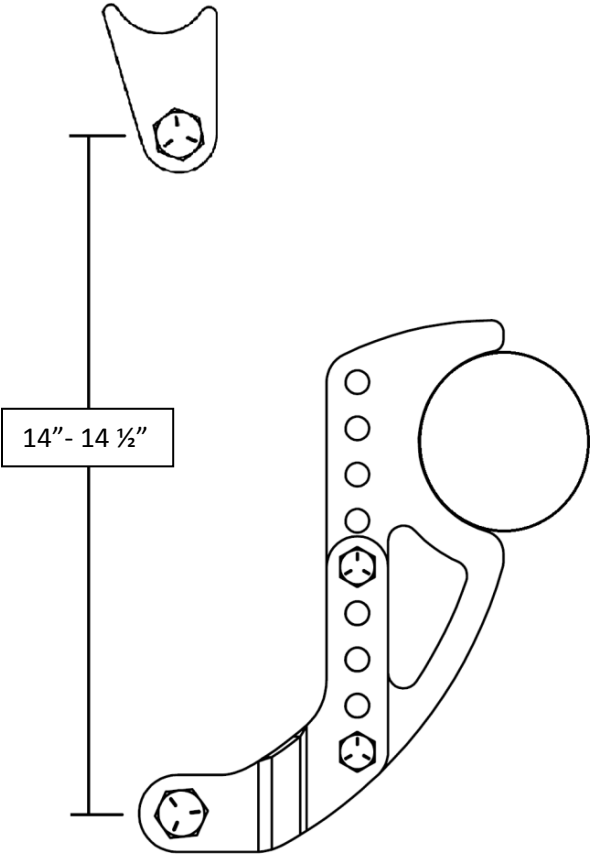

Figure 1
3. If the vehicle has factory frame rails, it is recommended that the frame rails be double plated in the area the cross member is to be welded. Keep in mind that the upper points should be as parallel to each other as possible (See **Figure 1**). Measure the distance from frame rail to frame rail and cut the cross member tubing to length (if applicable). Tack the tubing into place. Double check all measurements.
4. Assemble both sets of upper mounts (two tabs, one $\frac{1}{2}$ " ID x $1\frac{1}{4}$ " in. wide sleeve or a 1" wide bearing (from shock), one $\frac{1}{2}$ " x $2\frac{1}{2}$ " bolt and one $\frac{1}{2}$ " nut). Assemble both of the adjustable mounts (one left L-bracket, one Right L-bracket, one housing bracket, two $\frac{3}{8}$ " x $1\frac{1}{4}$ " bolts, two $\frac{3}{8}$ " nuts). When assembling the adjustable shock mount brackets, the housing bracket is sandwiched between the two L-brackets. Align the L-brackets so the shock mount hole is approximately halfway down the housing bracket (**Figure 1**). This allows plenty of ride height adjustment, both up and down. It is suggested that for the installation process you substitute the lock nuts with standard nuts for ease of use.
10. It will be necessary to adjust the spring seat to achieve the proper shock ride height. The shock ride height is measured from the center of the upper shock eye to the center of the lower shock eye with the car sitting on the ground at ride height. (**Figure 1**). The shock ride height should be 14" to $14\frac{1}{2}$ " if you have purchased a QA1 Pro-Rear System. If the chassis ride height is off some, do not be concerned at this point as it can be changed later. If the shock ride height is